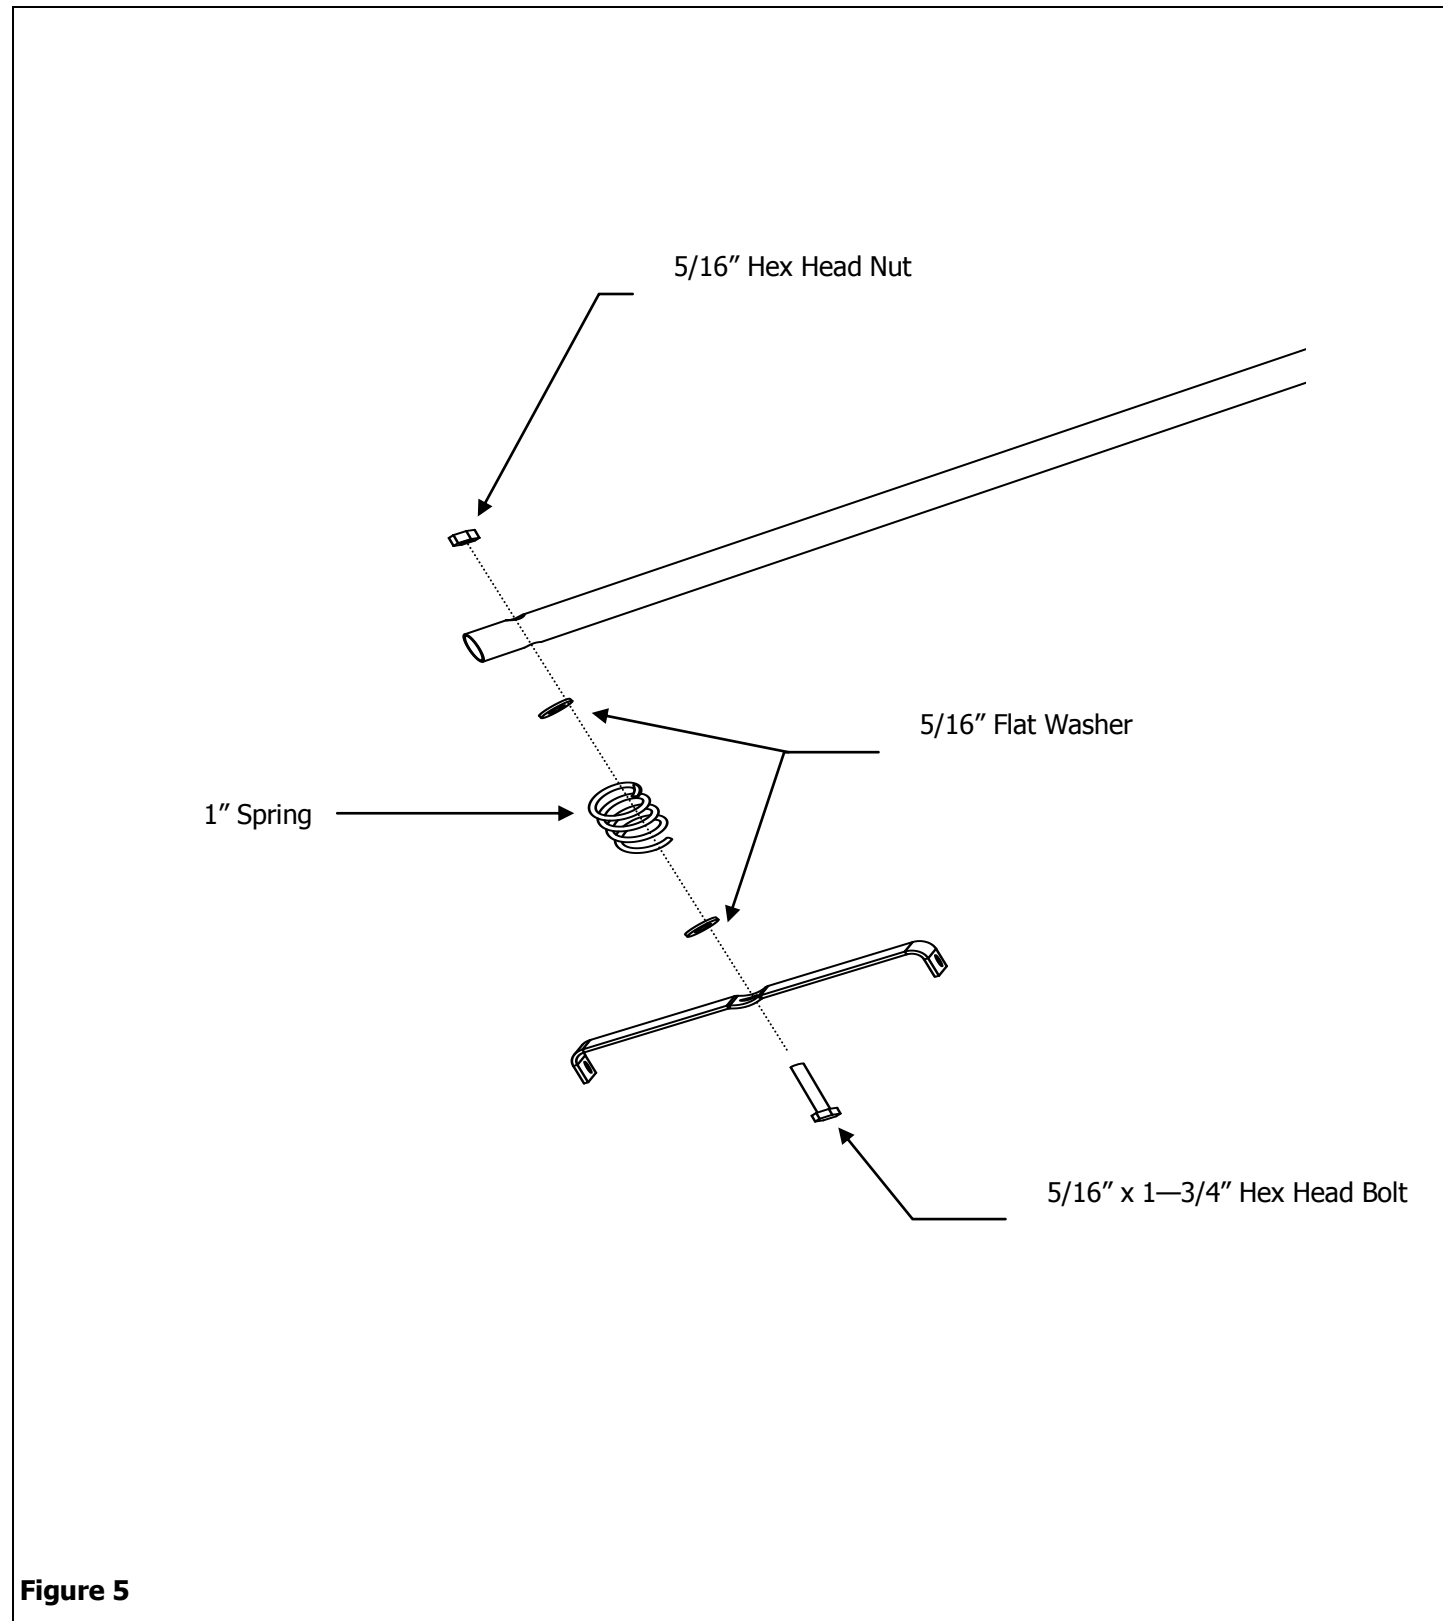

Figure 5
5. Assemble Row Marker to Row Marker Bracket using 5/16" x 1-3/4" Hex Head Bolt, 5/16" Flat Washer, Spring then another 5/16" Flat Washer and a 5/16" Lock Nut. Do not fully tighten hardware. Allow Row Marker Tube to pivot from side to side. See Figure 5.